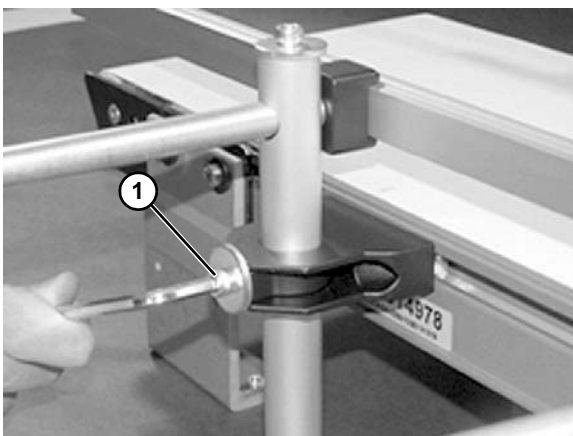

Figure 74
7. Adjust rail height with lower screw (**Figure 74, item 1**).